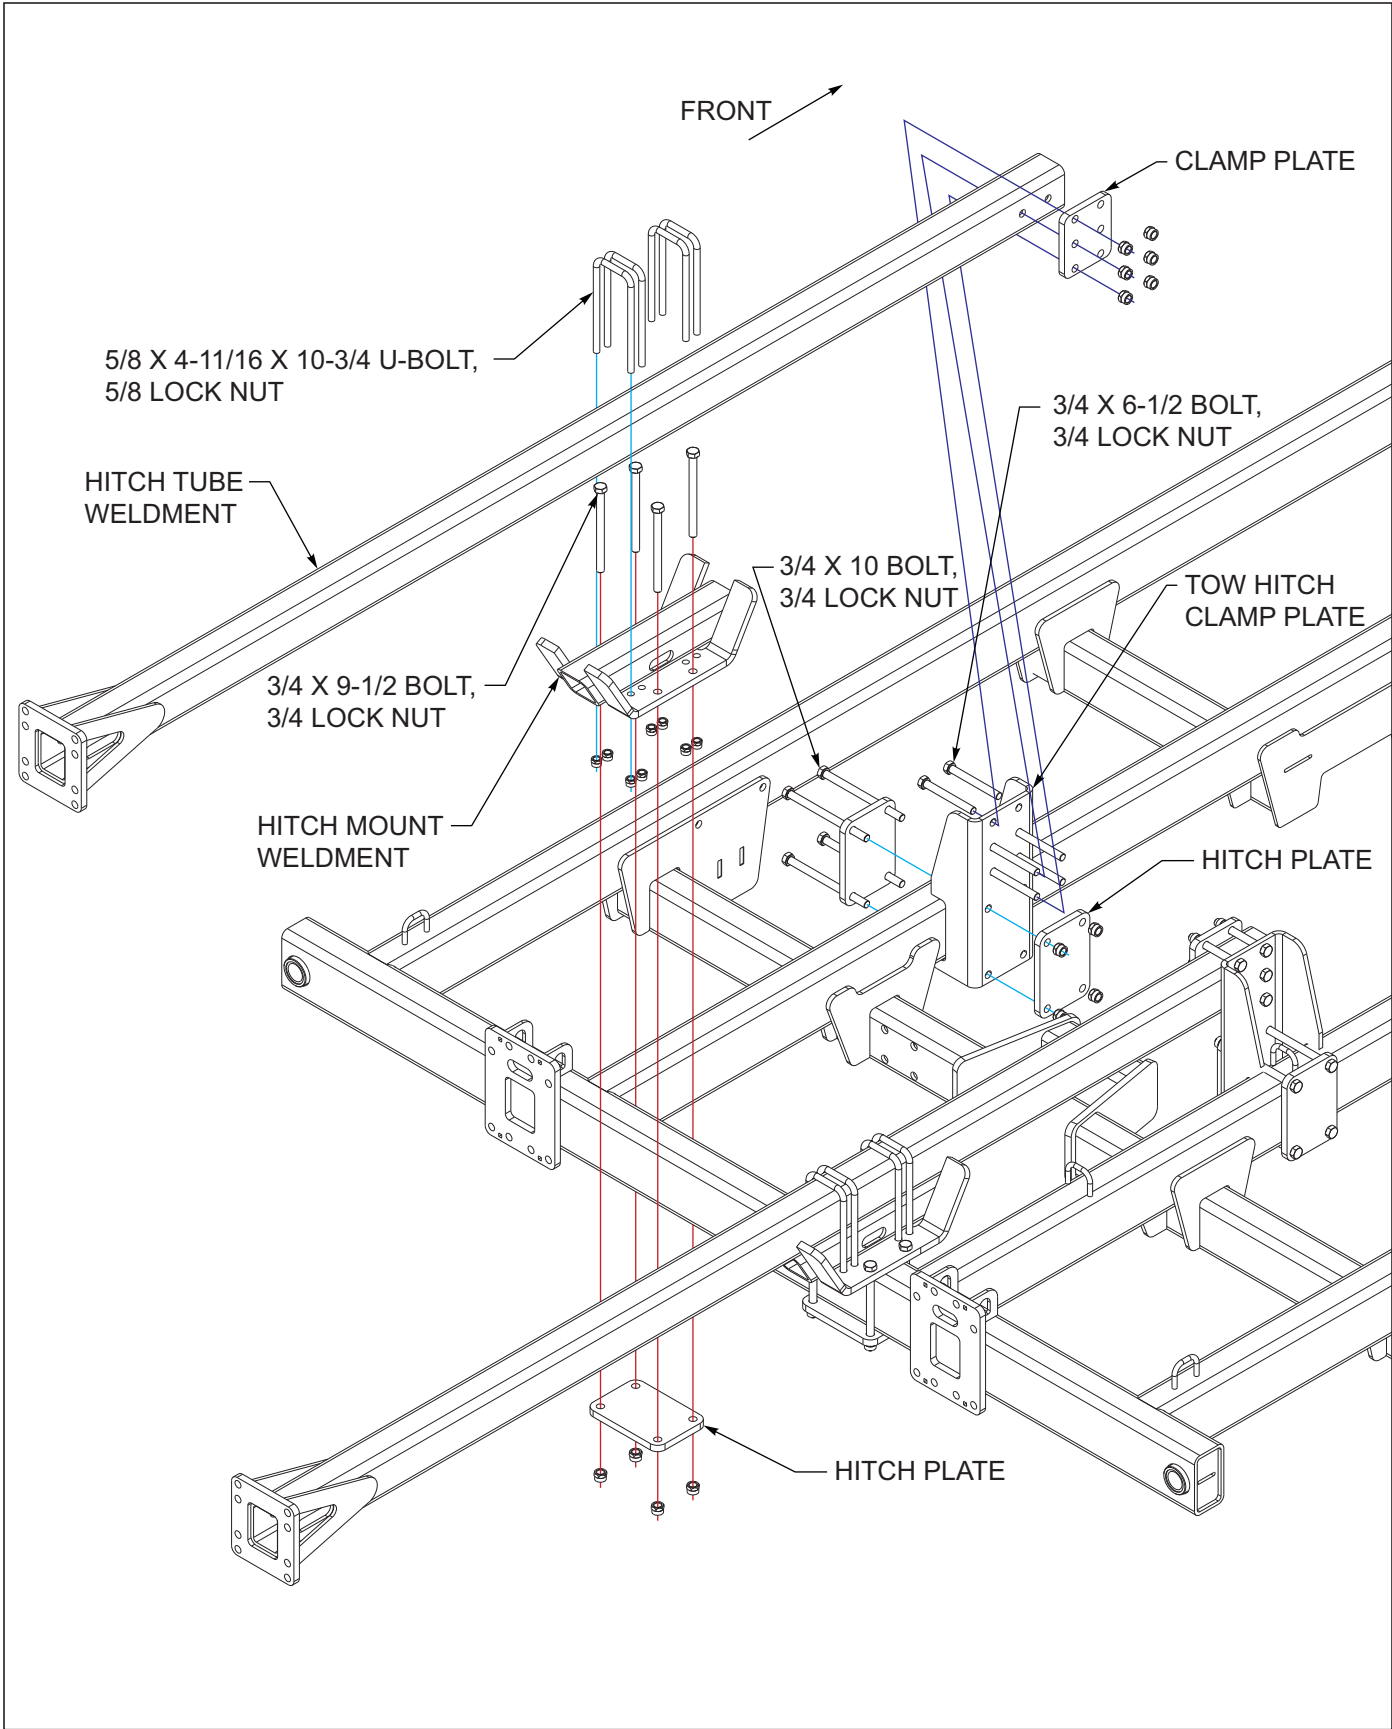

Figure 3-37: Rear Tow Hitch Installation (1 of 2)
1. Attach hitch mount weldments to top side of rear center frame tube, hitch plates below center frame tube with 3/4 x 9-1/2 bolts and 3/4 lock nuts **See Figures 3-37.**